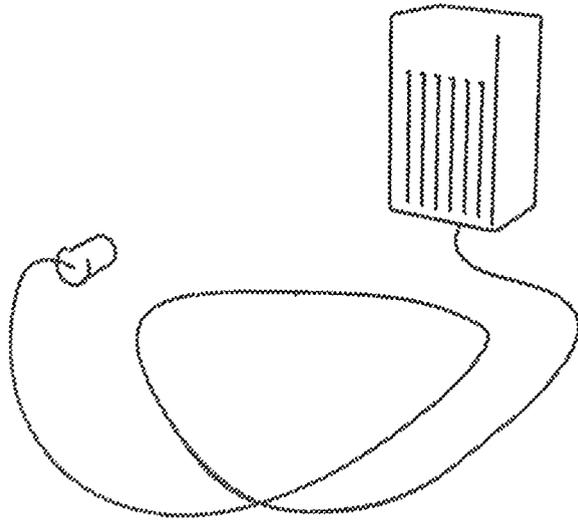

FIGURE 3
- IPL.7 Power Adapter (Figure 3)
POWER ADAPTER (Figure 3)